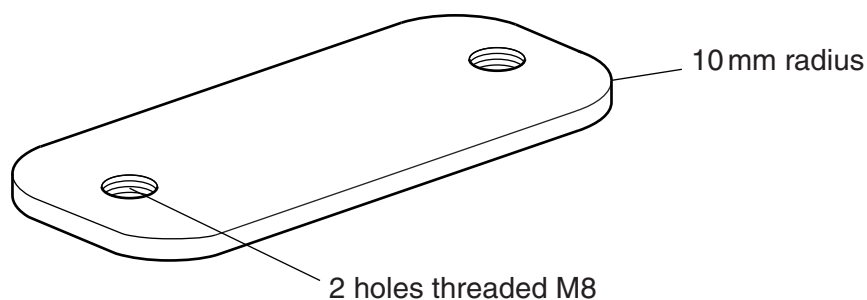

Fig. 1
- 2 Fig. 1 shows a clamping plate made in a school workshop from 5 mm thick mild steel.
- (a) (i) Complete the list below to give the stages needed to make the clamping plate shown in Fig. 1.
- (b) The clamping plate shown in Fig. 1 is to be made in large quantities.